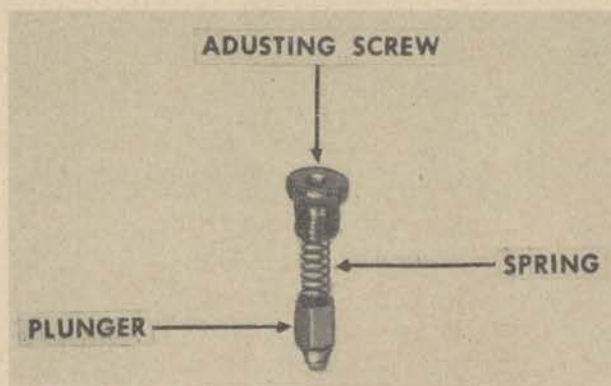

Figure 191. Pressure relief valve.
(5) *Oil pressure relief valve.* (a) *Adjustment.* The relief valve arrangement provides a means by which the oil pressure may be kept reasonably constant under normal operating conditions, unless excessive wear takes place in the pump or engine parts. This valve consists of the plunger (fig. 191), spring, and adjusting screw. It may be reached for adjustment without draining the crankcase oil, by removing the inspection cover on the right side of the cylinder block. Increase or decrease the oil pressure by turning IN or OUT on the adjusting screw.